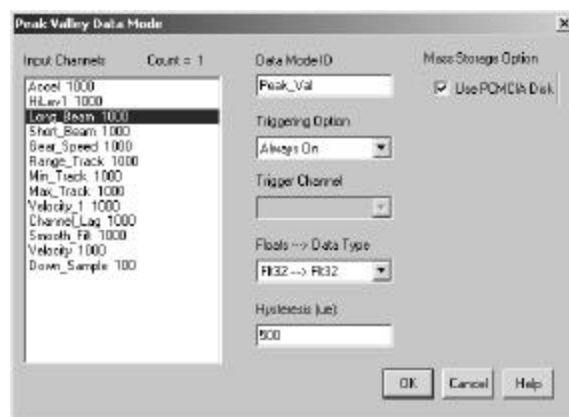

Figure 9-7: Peak Valley Definition Dialog Box
1. Select Peak Valley from the Select Data Mode Type dialog box. The Peak Valley Data Mode definition dialog box opens. **Figure 9-7** shows the dialog box with sample data.